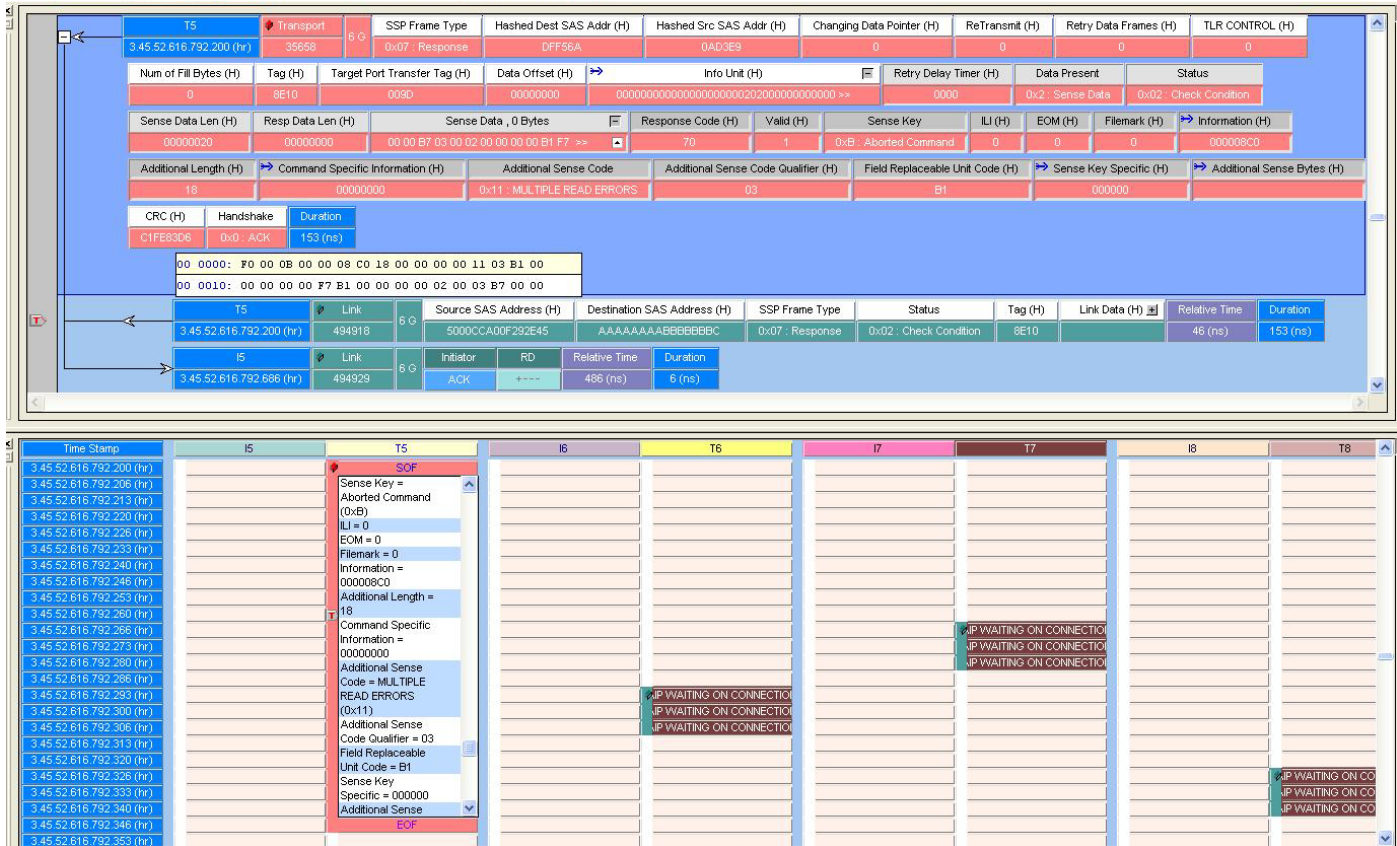

Figure 2.179: Sense Key Codes
- Some Check Condition Sense Key and ASC/ASCQ values are (see Figure 2.179 on page 180):